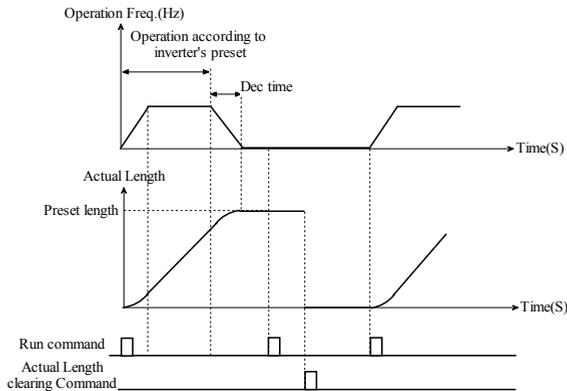

Fig. 5-8-1 Fixed length control diagram
- ◆ If the actual length (P8.01) is less than and nearly to the preset length (P8.00), the ac drive will decelerate and run at low speed automatically. When actual length (P8.01) \geq preset length (P8.00), the operating frequency will be zero, and the ac drive will stop according to the stop mode. When the ac drive restarts, it needs to clear the actual length or increase the preset length. The preset length (P8.00) must be larger than the actual length (P8.01), otherwise, the ac drive will not start. As shown in Fig.5-8-1.